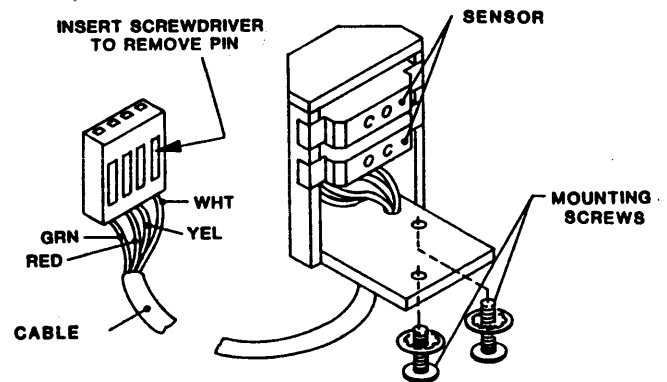

Figure 5-23.
5.3.28 BOT/EOT SENSOR ASSEMBLY (Figure 5-23)